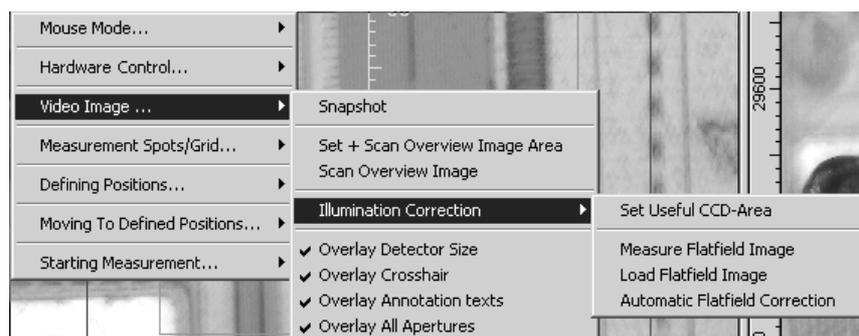

Figure 64: Illumination Correction
- Using only the evenly illuminated part in the center of the image. Select *Video Image...* → *Illumination Correction* → *Set useful CCD-area* in the pop-up menu. See figure 64.
The flatfield image is stored as a Bitmap file (FLATFIELD.BMP) in the OPUS directory. If you want to perform the flatfield correction later, you have to load the flatfield image using the *Load Flatfield Image* function before starting the flatfield correction by selecting the *Automatic Flatfield Correction* function (figure 64).